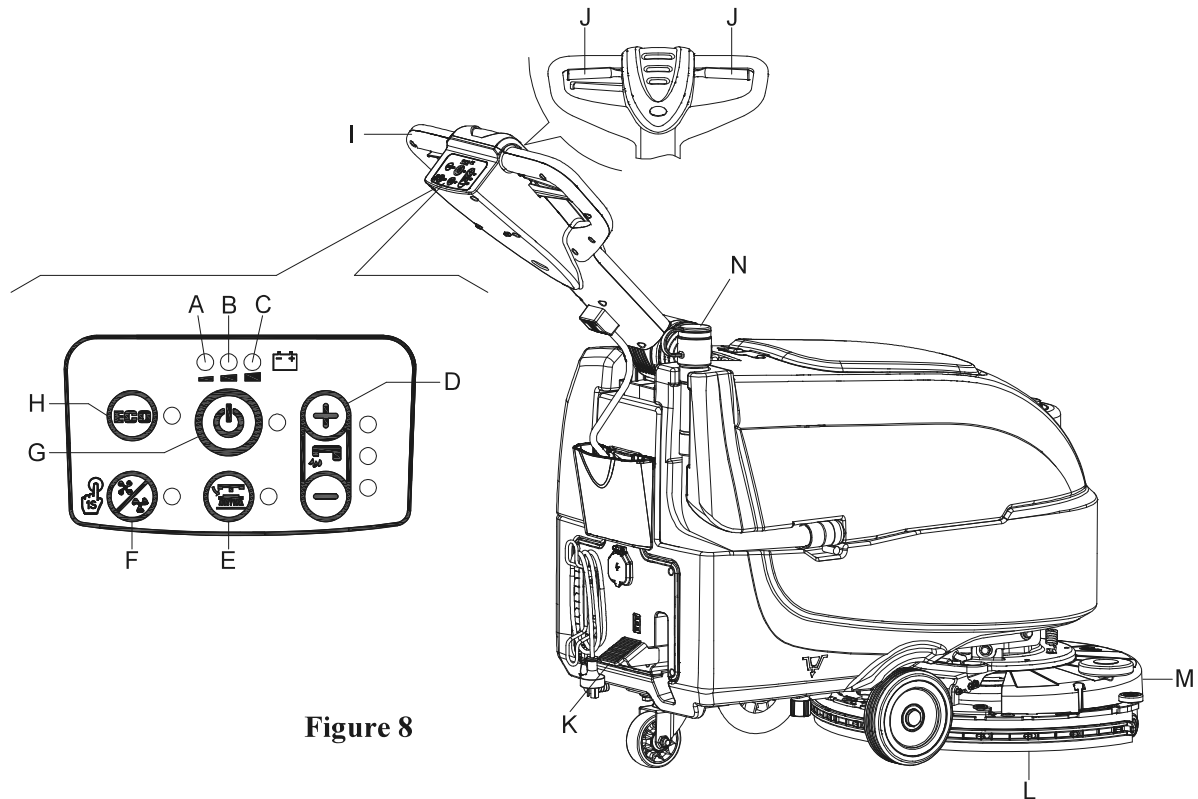
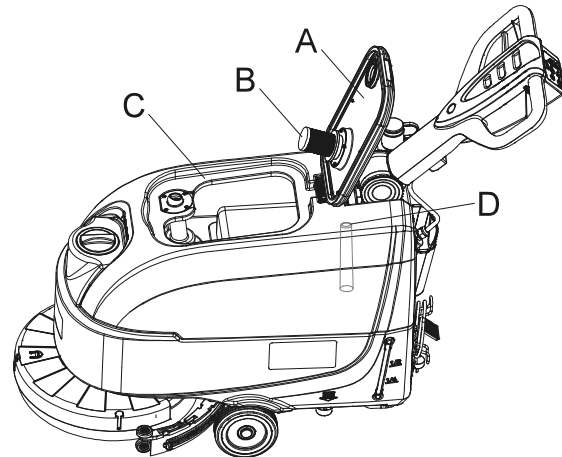

Figure 8
Figure 10
2. Push the machine to the area to be cleaned, by pushing it with the hands on the handlebar (I, Figure 8).
3. Lower the brush/pad-holder deck (M, Figure 8) and the squeegee (L) by lifting the pedal (K).
4. Press the start switch (G, Figure 8). Check that the green warning light (C) turns on (charged battery). If the yellow (B) or red warning light (A) turns on, Shutoff the power switch (G, Figure 8) and charge the batteries (see the procedure in Maintenance chapter).
5. Press the washing water flow control switches (D, Figure 8) as necessary, depending on the type of cleaning to be performed.
6. Start cleaning by pushing the machine with the hands on the handlebar (I) and pressing the safety switch lever (J).
To move the machine forward, press either the left or right safety switch lever (J, Figure 8) or both.
- Stop the machine by using the handlebar (I).
- Stop the brushes and the vacuum system by pressing the switch (G). The vacuum system stops after a few seconds.
- Lift the brush/pad-holder deck(M) and the squeegee (L) by pressing the pedal (K).
- While keeping both hands on the handlebar press the safety switch lever (J, Figure 8), then manoeuvre the machine and start scrubbing/drying the floor.
While the green warning light (C, Figure 8) stays on, the batteries allow the machine to work normally. When the green warning light (C) turns off, and the yellow warning light (B) turns on, it is advisable to charge the batteries, because the remaining charge will last for a few minutes (depending on battery characteristics and work to be performed). When the red warning light (A) turns on, batteries are fully discharged. After a few seconds, the brush/pad-holder is automatically tuned off.
An automatic float shut-off system (B, Figure 10) blocks the vacuum system when the recovery water tank (C) is full. The vacuum system deactivation is signaled by a sudden increase in the vacuum system motor noise frequency, also the floor has not dried.
**If the vacuum system turns off accidentally (for example, when the float is activated because of a sudden machine movement), to resume the operation: turn off the vacuum system by pressing the switch (G, Figure 8), then open the cover (A, Figure 10) and check that the float inside the grid (B) has gone down to the water level. Then close the cover (A) and turn on the vacuum system by pressing the switch (G, Figure 8).**
When the recovery water tank (C, Figure 10) is full, empty it according to the following procedure.
2. Lift the brush/pad-holder deck (M, Figure 8) and the squeegee (L) by pressing the pedal (K).
4. Empty the recovery water tank with the hose (N, Figure 8). Then, rinse the recovery tank (C, Figure 10) with clean water.
5. Remove the recovery tank lid (A, Figure 10) and clean the inside of the cover and the filter floater grid (B) with clean water.
6. Check the recovery tank (D, Figure 10) whether there is foreign body jam and clean it.